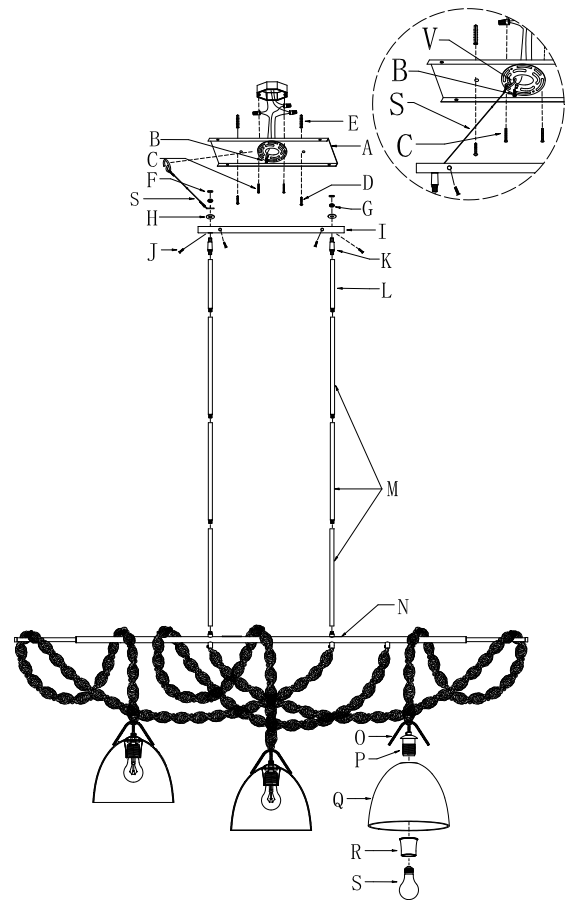

Fig. 2
CONNECTING THE WIRES (Fig. 2)
9. Connect electrical wires as shown in Fig.2, making sure that all wire connectors are secured. If your junction box has a ground wire (green or bare copper), connect the fixture's ground wire to it. Otherwise, connect the ground wire directly to the mounting plate (A) using the green screw (B) provided.